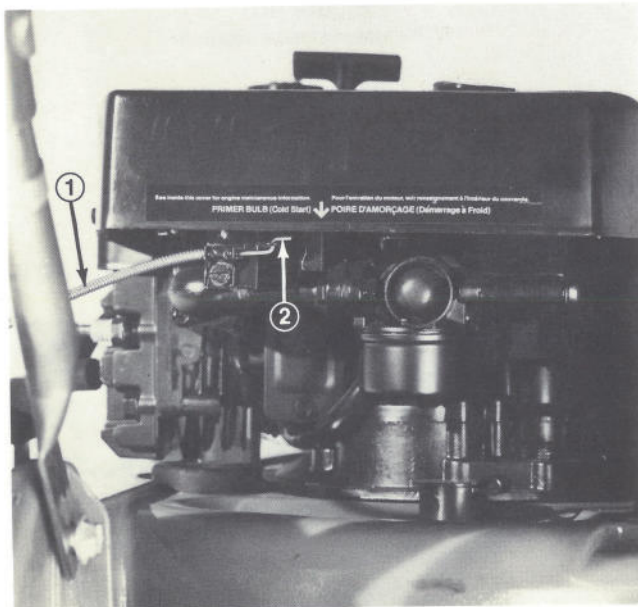

Figure 38
4. Loosen cable clamp screw until throttle cable is free to slide (Fig. 38).
5. Move carburetor control arm to the left until it contacts grounding bracket (Fig. 38). Pull throttle cable slightly to remove any slack and tighten the cable clamp screw to lock the adjustment in place.